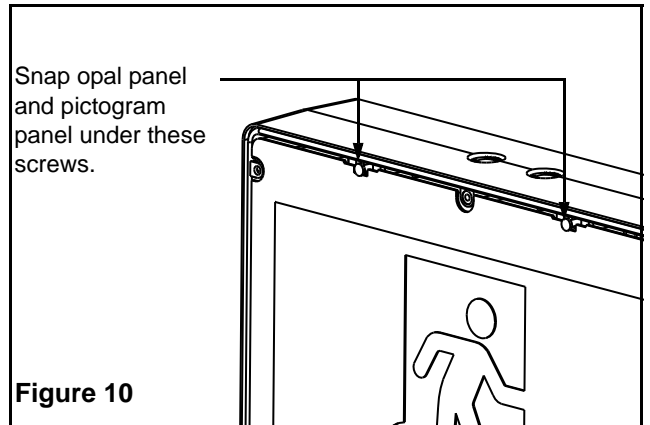

Figure 10
4. Select the desired panel and install. Snap the top edges under the two top retention screws and then snap the bottom edges under the two bottom retention screws (see Figure 10).